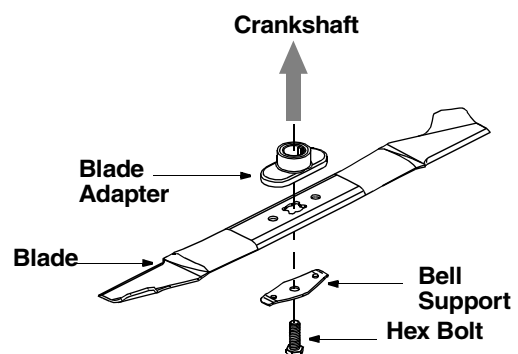

Figure 12
- Remove the bolt and bell support which hold the blade and adapter to the engine crankshaft. See Figure 12. Remove the blade and adapter from the crankshaft.